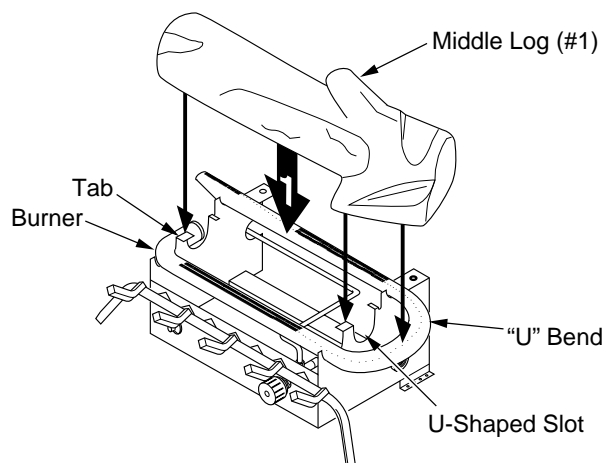

Figure 21 - Installing Middle Log (#1)
1. Place the base of the middle log (#1) in the U-shaped slots of the grate base. The cutout on the right of the middle log should fit over the burner (see Figure 21). Make sure the front of the middle log is resting on the tabs of the grate base and the cut-out area is centered over the burner "U" bend.